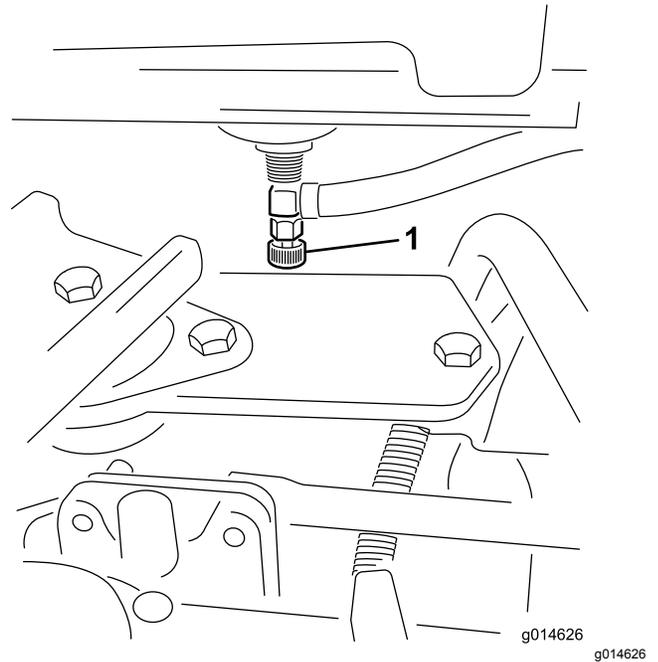

Figure 36
1. Close the fuel-shutoff valve (Figure 36) below the fuel tank.